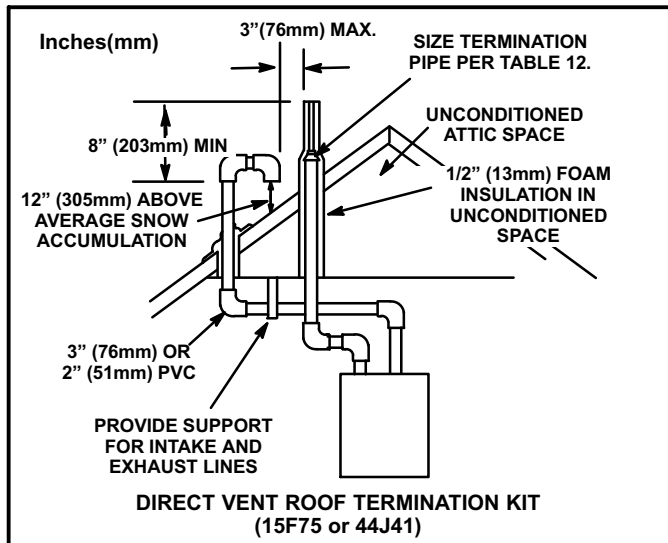

FIGURE 29
Intake and exhaust pipes may be routed either horizontally through an outside wall or vertically through the roof. In attic or closet installations, vertical termination through the roof is preferred. Figures 29 through 41 show typical terminations.
3. On roof terminations, the intake piping should terminate straight down using two 90° elbows (See figure 29).